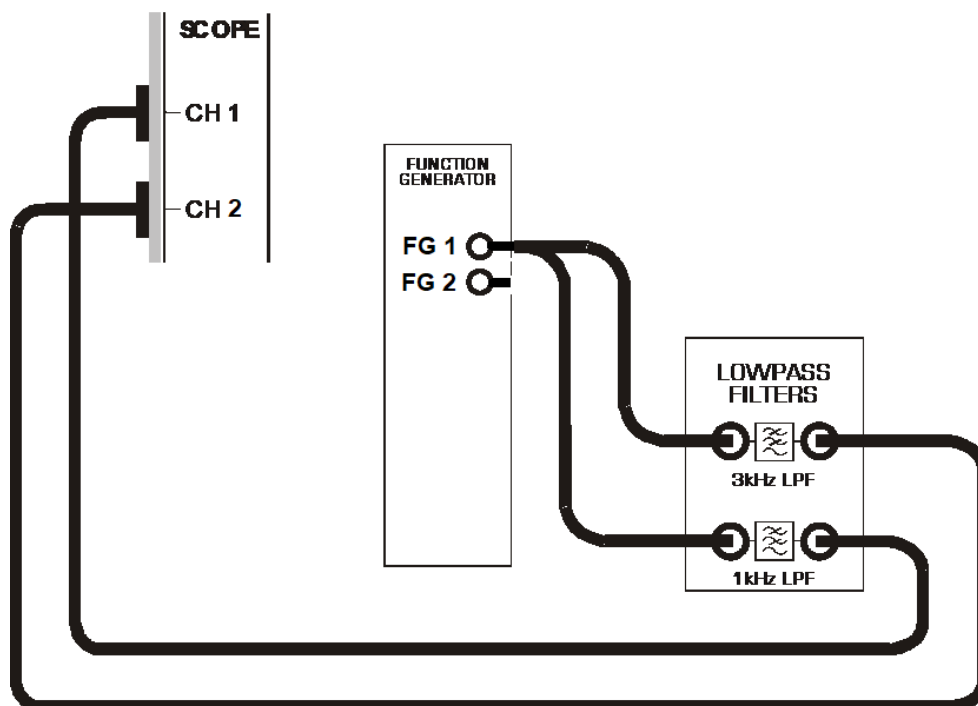

Figure 7: FUNCTION GENERATOR to LOW PASS FILTER modules
39. Modify the set-up as shown in Figure 7 below.